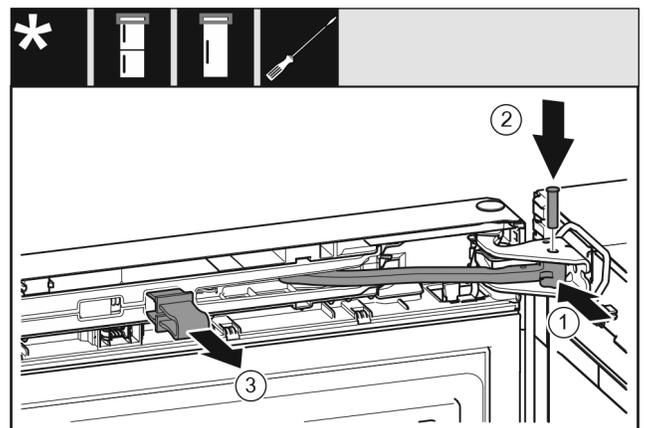

Fig. 23
- ▶ Turn the hinge in the bearing bracket. Fig. 23 (1)
- ▶ Insert the bolt in the bearing bracket and hinge. Make sure that the latching lug is sitting correctly in the groove. Fig. 23 (2)
- ▶ Remove the locking device. Fig. 23 (3)